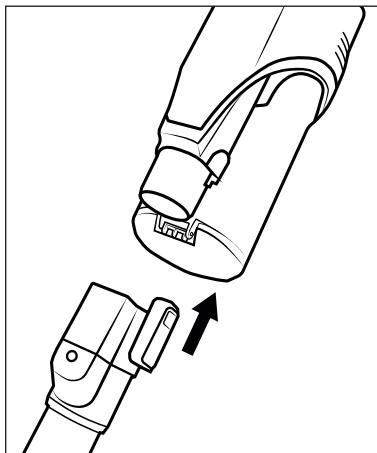

Fig. 1
- 1) Push the suction pipe 24 onto the appliance until it audibly clicks into place (see Fig. 1).